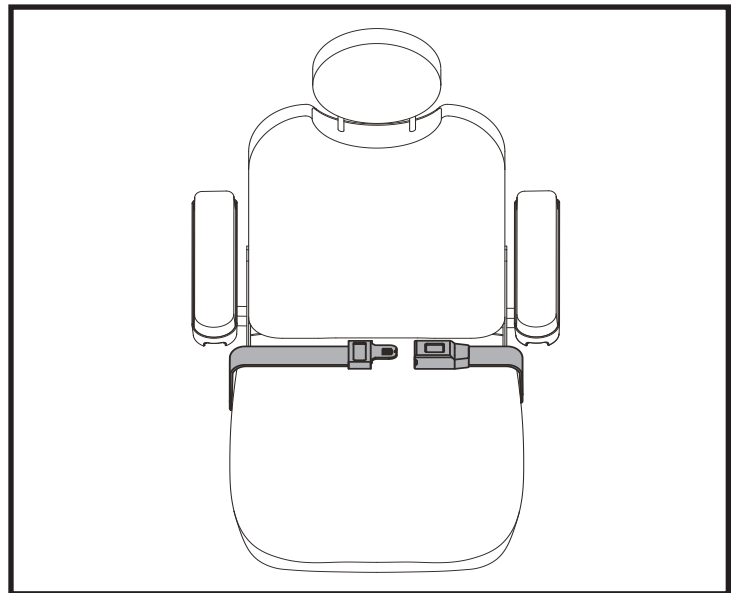

Figure 21. Positioning Belt Adjustment
Your power chair may be equipped with a positioning belt that can be adjusted for operator comfort. See figure 21. The positioning belt is designed to support the operator so that he/she does not slide down or forward in the seat. The positioning belt is not designed for use as a restraining device.
1. Once seated, insert the metal tab on one side of the belt into the plastic housing on the opposite side until you hear a click. See figure 21.